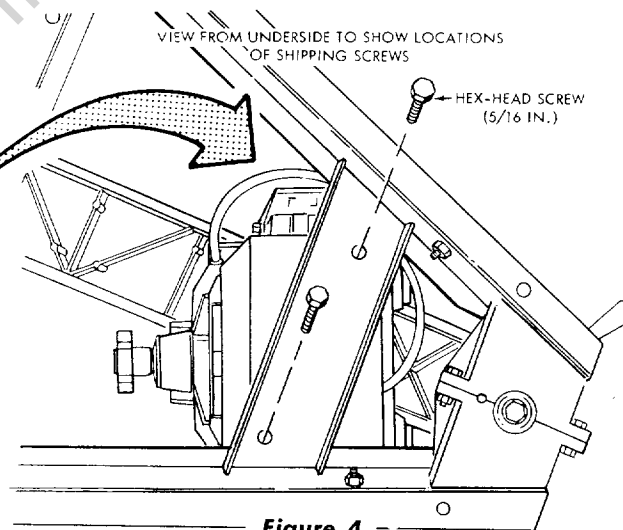

Figure 4
- Remove and discard the two 5/16-inch, hex-head screws from underside of base. These screws secure the motor during shipment. (See figure 4.)